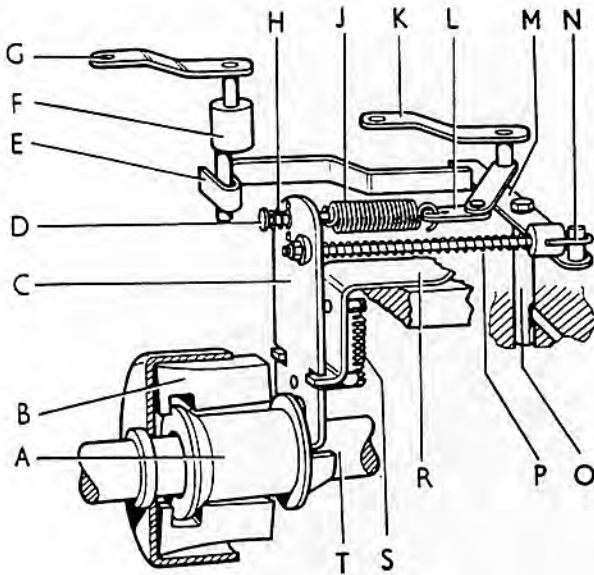

FIG. 101 GOVERNOR
The governor mechanism only is shown in detail in Fig. 101. Governor thrust sleeve (A) and flyweights (B) are carried on shaft (T), the sleeve (A) being in contact with control arm (C).